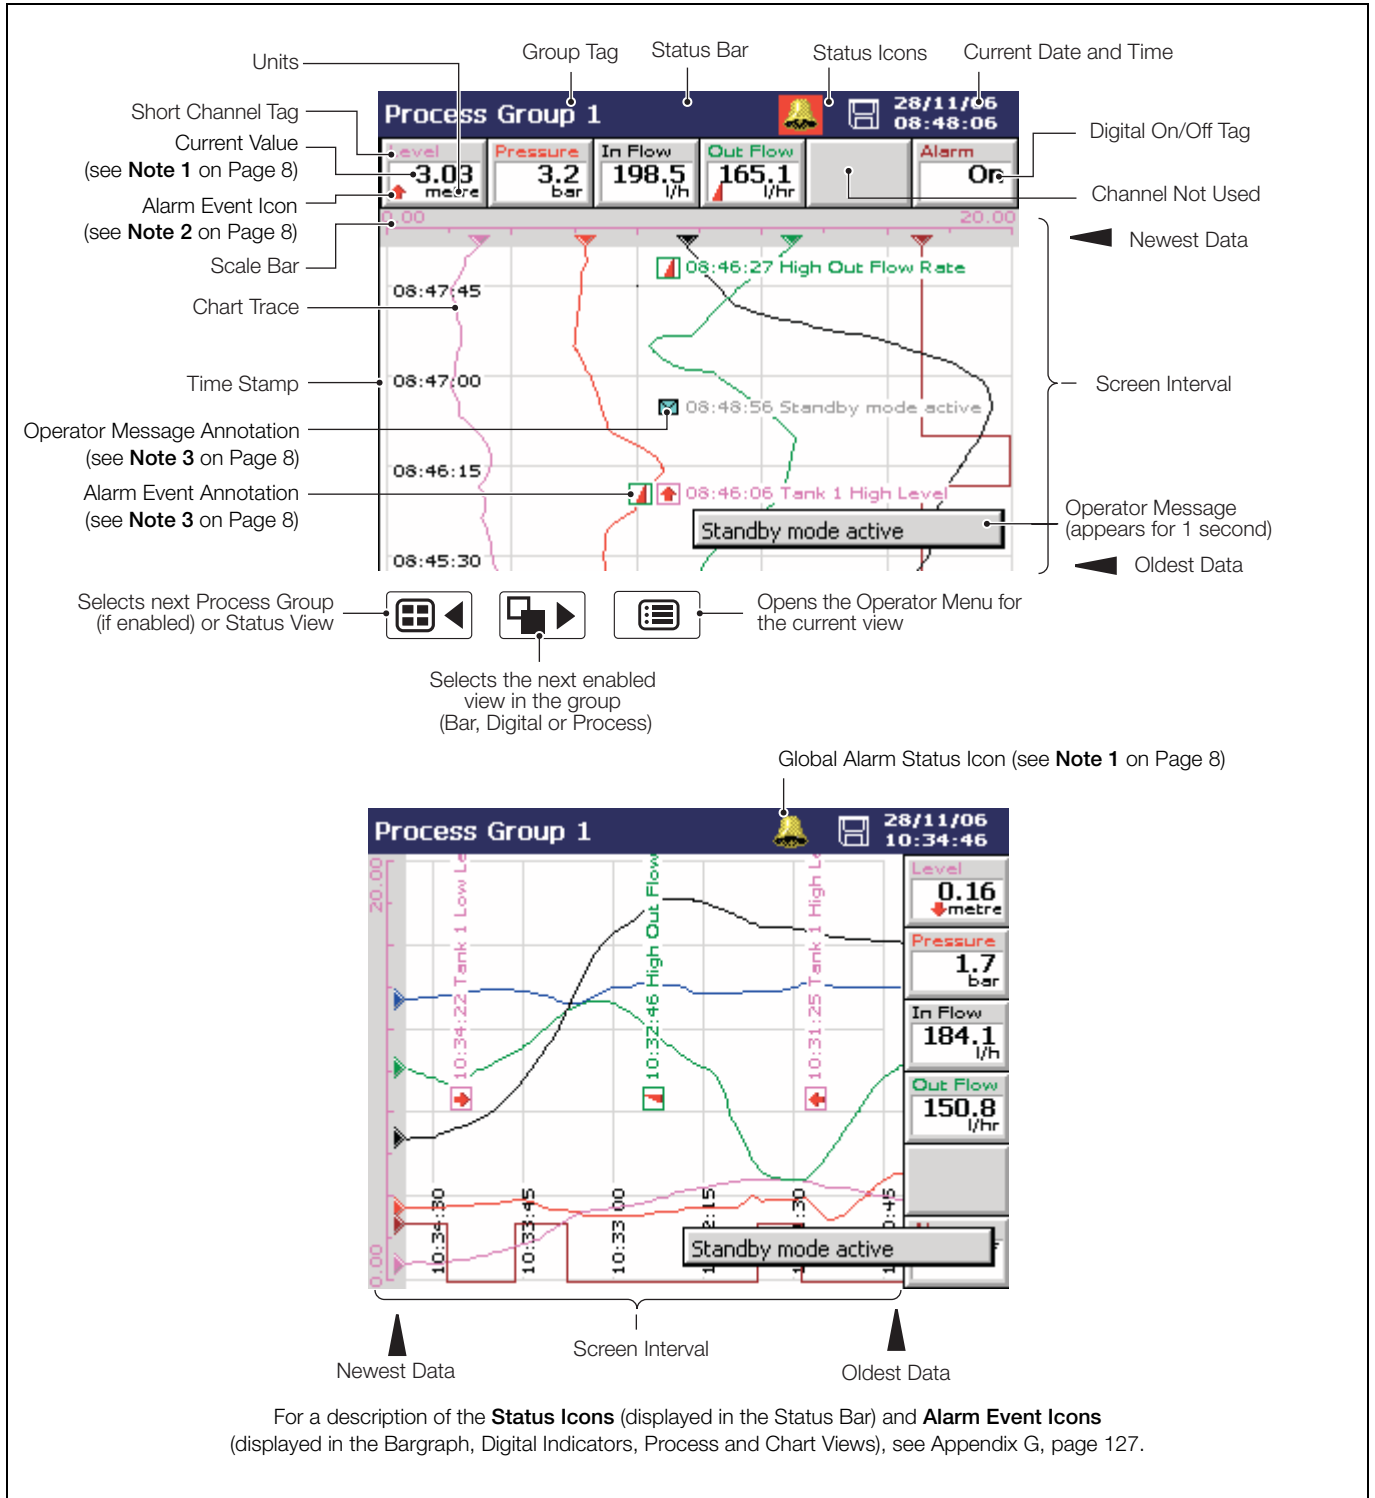

Fig. 2.3 Horizontal and Vertical Chart Views
2.3 Chart Views – Fig. 2.3
If **any** alarm in **any** process group is active, the Global Alarm status icon () is displayed in the status bar – see Fig. 2.3. If **any** active alarm in **any** process group is unacknowledged, the icon is surrounded by a red flashing border ()
**Note.** Active unacknowledged alarms in the current process group are identified by a flashing red Alarm Event icon in the bottom left hand corner of the associated channel indicator. Active acknowledged alarms are identified by a continuous red Alarm Event icon in the bottom left hand corner of the indicator – see Fig. 2.3, page 7.